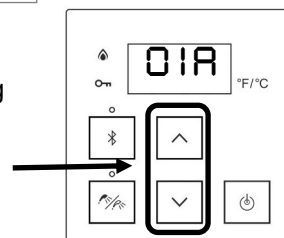

Figure 55
3. Press the “A” button for 1 second. The controller displays **01A** or **01b** (Figure 55).